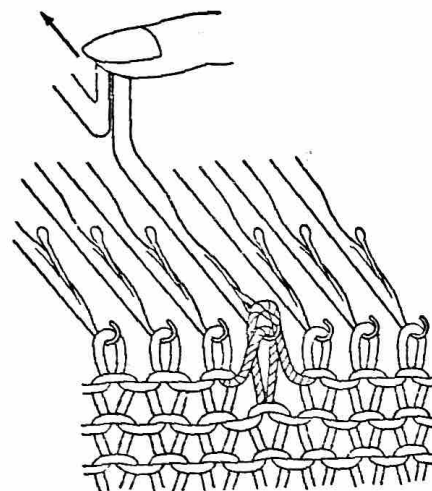
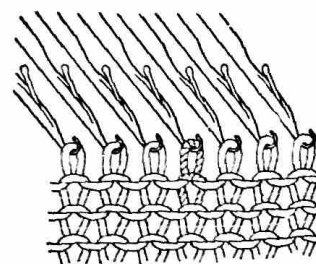

Fig. 31
Fig. 32
3. Push the needle all the way back (away from you) by pushing on the butt of the needle (Fig. 31). The stitch will slide over the hook and the yarn on the hook of the needle will be knitted (Fig. 32).